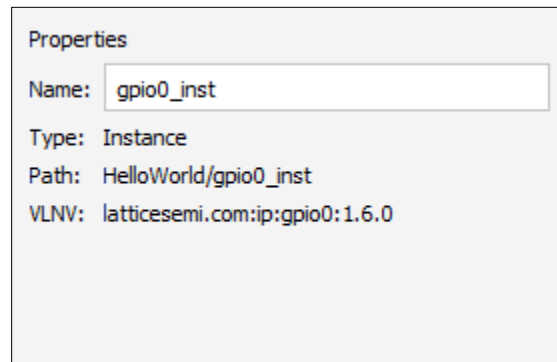

Figure 2.88. Object Properties
1. Select the object from List view of the Design View. Information of the selected object is shown in the **Properties** area (Figure 2.88).